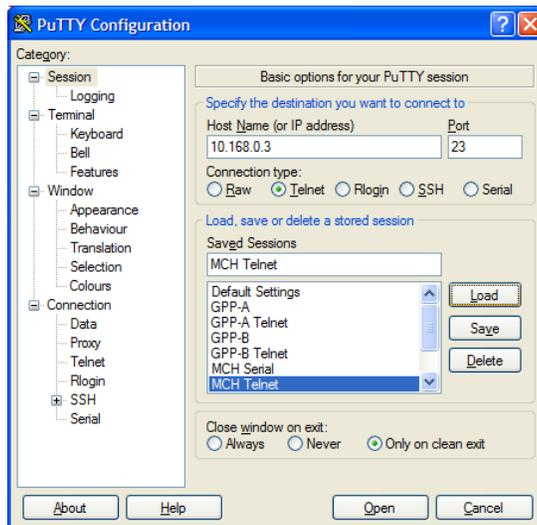

Figure 2-26: PuTTY Configuration Window
14. Telnet to the MCH by double-clicking the **Putty** icon on the desktop. The *PutTY Configuration* window displays, as shown in Figure 2-26.